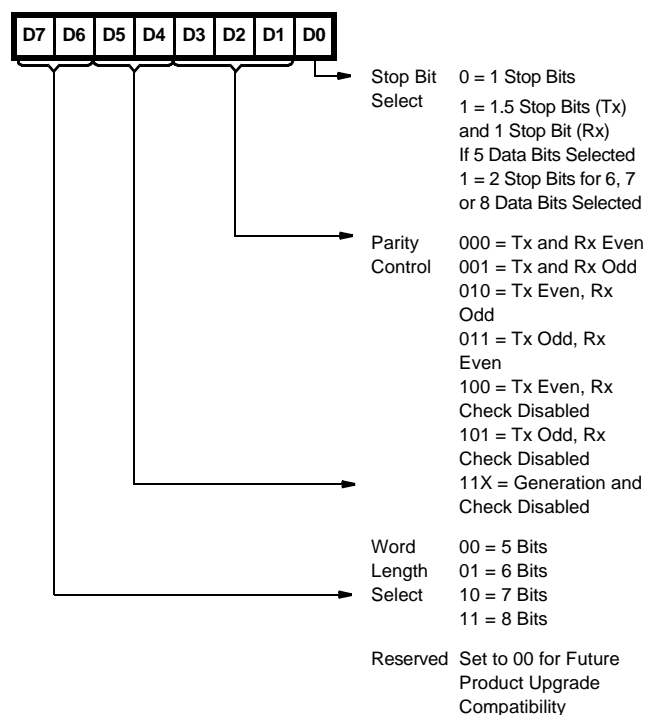

FIGURE 1. UCR
The UCR is a write only register which configures the UART transmitter and receiver circuits. Data bits D7 and D6 are not used but should always be set to a logic zero (0) in order to insure software compatibility with future product upgrades. During the Echo Mode, the transmitter always repeats the received word and parity, even when the UCR is programmed with different or no parity. See Figure 1.